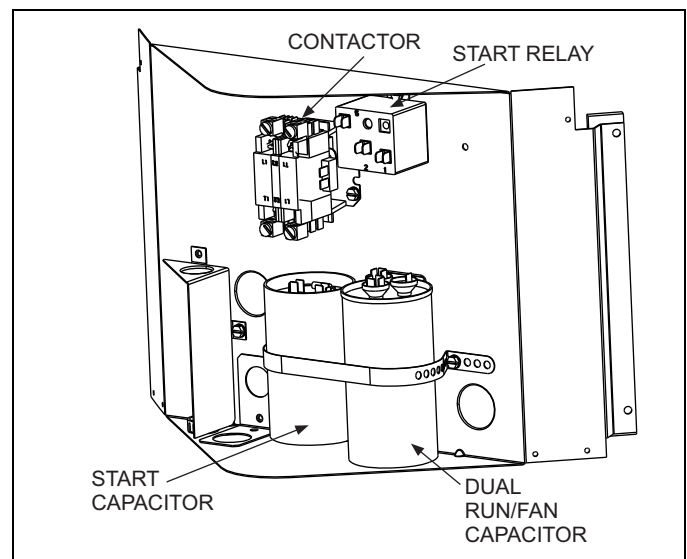

FIGURE 6
1. Use the pilot hole behind start relay sticker to attach start relay. see Figure 6.